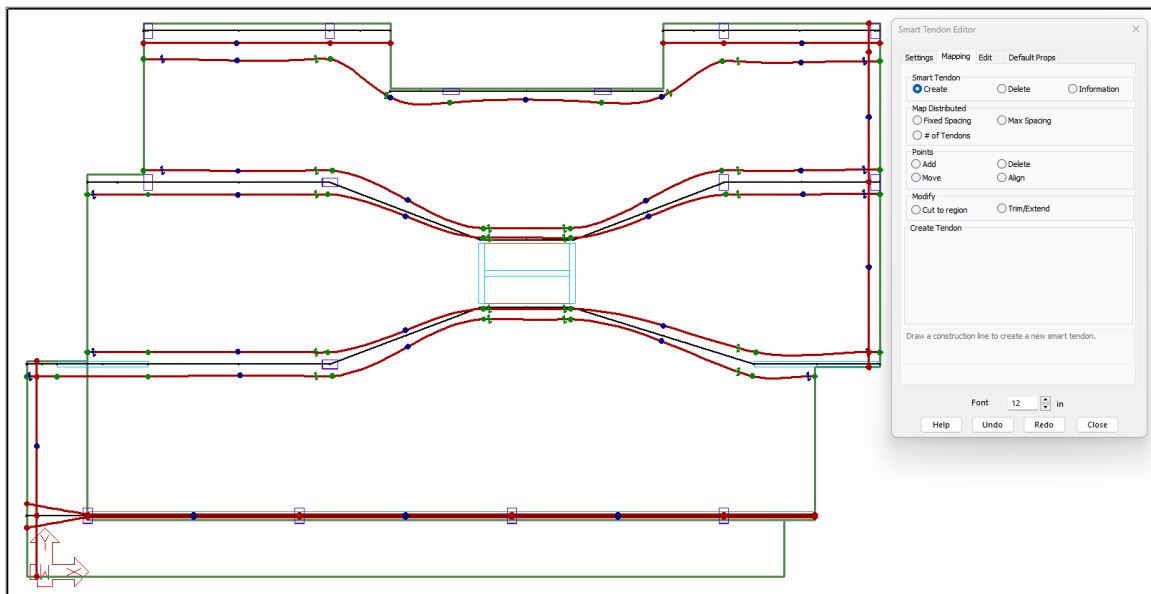

FIGURE 9-71
- Click the second point above the slab. Your model should now look similar to FIGURE 9-71.